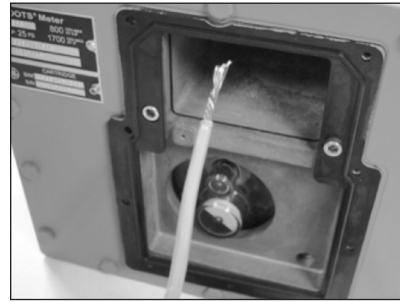

Figure 9.14 Example - Pulse output cable
2. Run the gray pulse output cable through the front of the meter and through the back of the cable gland as shown in Figures 9.14 and 9.15 Examples.